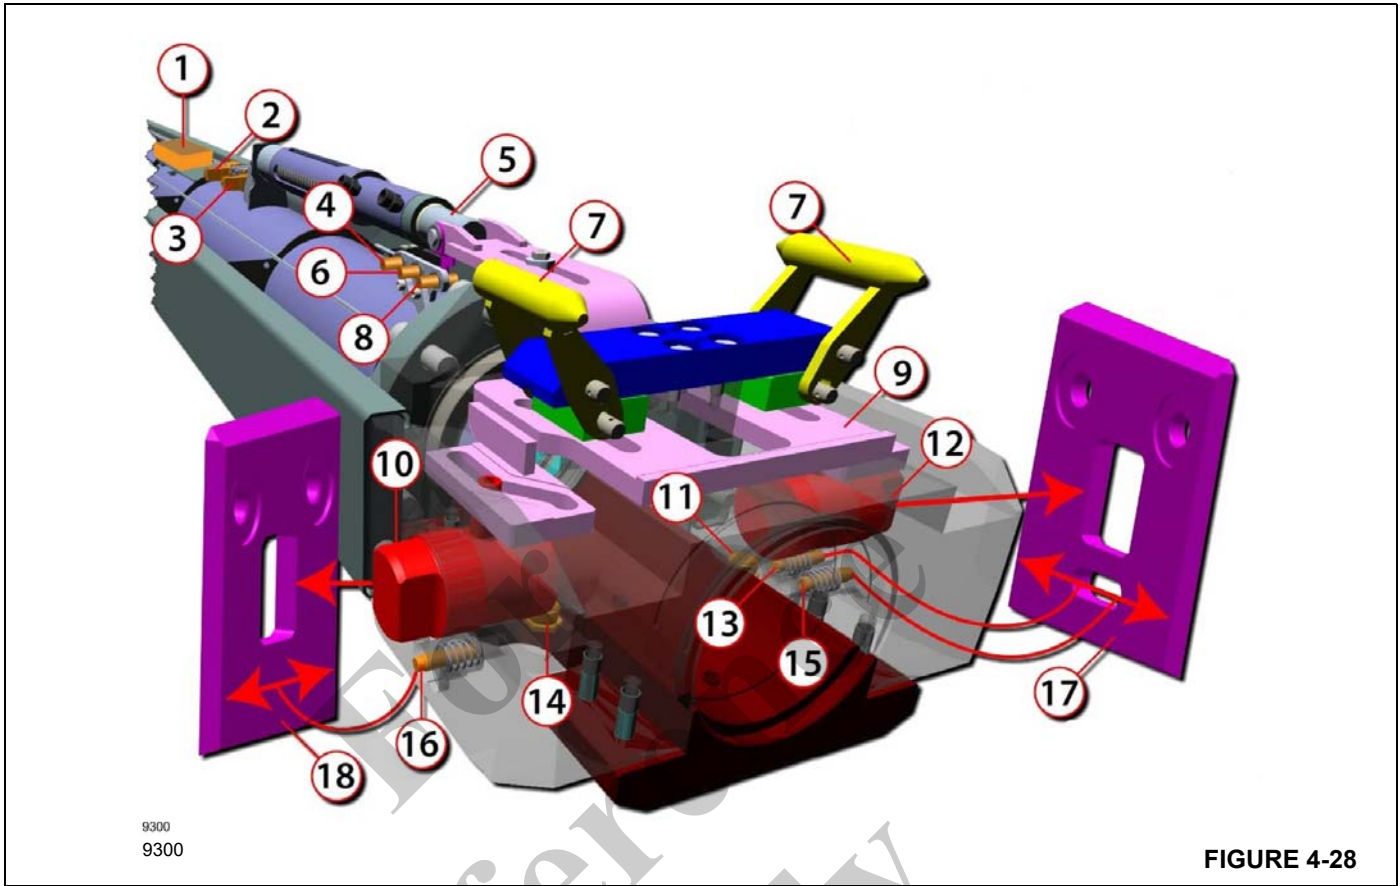
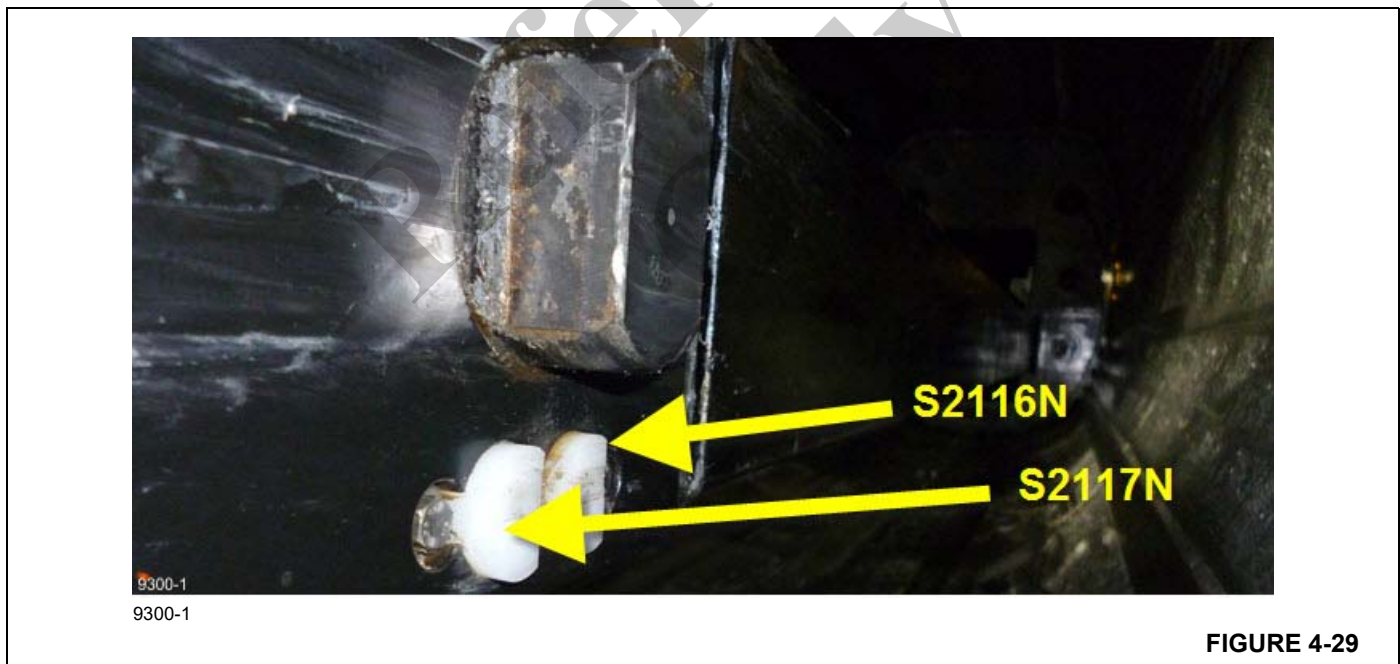

FIGURE 4-28
FIGURE 4-29
Figure 4-28 shows a layout for the Mechanical Locking Head design.
The sliding plate (9, Figure 4-28) has slots that guide the ends of small pins. The small pins are connected to components that can retract and release the pinned boom locking pins. The cylinder pins (10 and 12) are directly connected to the small pins, and when the sliding plate slides in the direction of telescoping cylinder extending, the cylinder pins are retracted. The section pins (not shown in Figure 4-28) are moved by the butterfly levers (7). The butterfly levers are moved as the sliding plate slides in the other direction (telescoping cylinder retracting direction).
There are 3 proximity switches for confirming the position of the hydraulic actuator (5, Figure 4-28). They detect a target plate that is attached to one of the pieces that move with the sliding plate. These switches are the following:
There are 3 proximity switches for confirming the position of the telescoping cylinder relative to a boom section. Two of these switches indicate the telescoping cylinder at a slot in a plate in the “foot area” of the boom section (13 and 15). Figure 4-29 shows these two switches, and that they are located on spring loaded cylindrical bodies that can ride in and out of slots in the boom sections. The third proximity switch is on the other side of the telescoping cylinder (16, Figure 4-28). As seen with the arrows for Items 17 and 18 in
Figure 4-28, when switches S2116N and S2117N are OFF, and switch S2118N is ON, then the telescoping cylinder can be considered aligned with a boom section. The telescoping cylinder would now be in position to connect to that boom section. The following provides identification of these proximity switches:
Item 5, Figure 4-28, indicates the hydraulic actuator for the pinning mechanism. This actuator is expected to move the sliding plate in either direction from its neutral position. The
There are two ON/OFF valves (2 and 3, Figure 4-28) that control where pressure for the actuator is directed. These valves are designated Y2130 and Y2131.